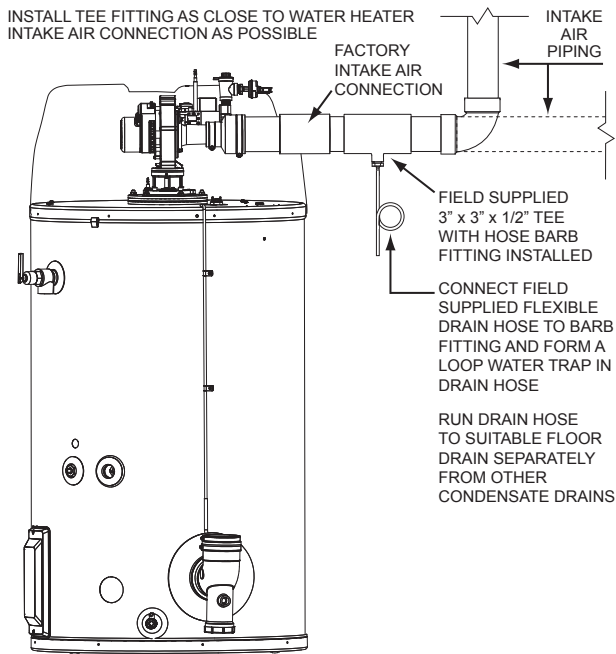

Figure 20. Intake Air Condensate Tee Installation
9. A field-supplied condensate Tee fitting and drain hose shall be installed in the intake air piping near the water heater in colder climates with heavy snow accumulations and in areas that regularly experience high humidity. The drain hose should be routed to an adequate floor drain separate from any other condensate drains. See *Figure 20* (page 30).
Installations with any of these conditions are required to provide a moisture drain with a trap that flows to a waste drain. See *Figure 20*. A horizontal section of the air inlet pipe, near the heater should include a 3" x 3" x 1/2" tee and a hose barb fitting to drain the water. The tee should be as close to the heater as is practical. The drain tubing in any installation should have a loop trap and flow to an appropriate waste drain. The air intake drain line must be entirely separate from the exhaust vent outlet condensate line.